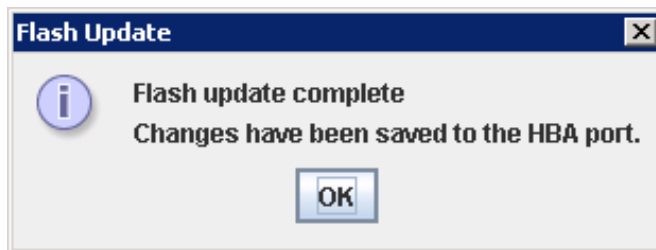

Figure 74 Flash Update dialog box
7. SANsurfer may appear to be unresponsive while the adapter flash memory is being updated. A message will appear when the process is complete, as shown in Figure 74.